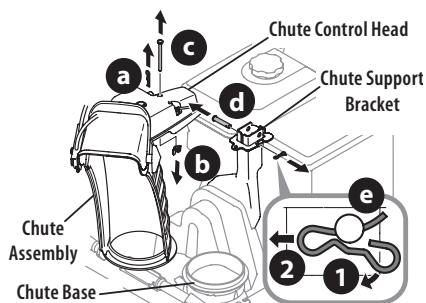

Figure 13
1. Remove hairpin clip (a), wing nut (or locknut if equipped) (b) and hex screw (c) from chute control head and clevis pin (d) and bow-tie cotter pin (e) from chute support bracket (Figure 13).